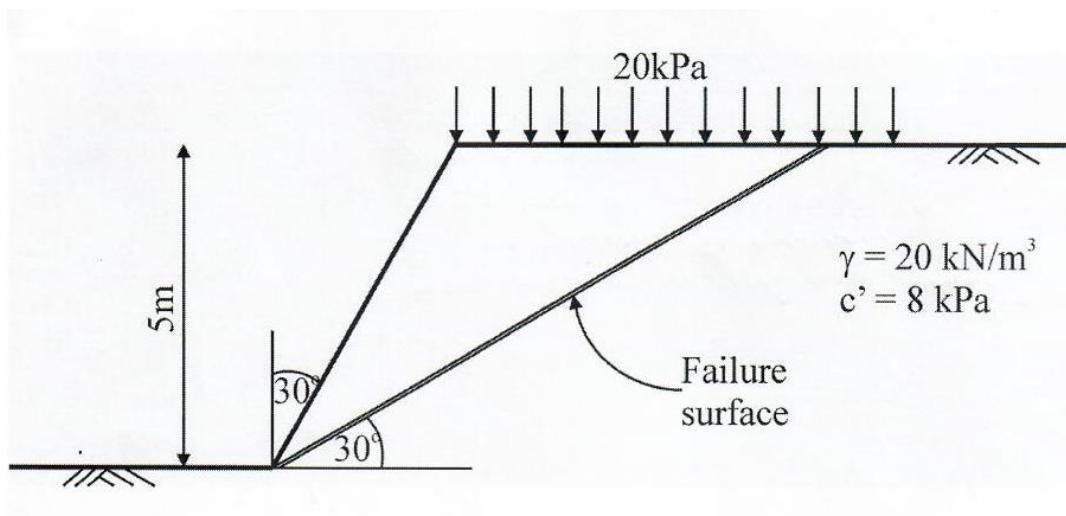

Figure Q4
4. For the design of roadworks it is necessary to investigate the stability of the side slopes of an excavation. A site investigation indicates that the soil is homogeneous to a considerable depth, with bulk unit weight γ of 20 kN/m^3 and cohesion c' of 8 kPa . This investigation did not provide a reliable value of the angle of shearing resistance φ' . However, during earlier works at the same site failure of an excavation was recorded, the geometry of which is presented in Figure Q4, together with the observed planar failure surface.
Using the Limit Equilibrium analysis method and the soil properties given above, back analyse the failure in Figure Q4 to determine the value of shearing resistance φ' . Assume that the soil behaves in a drained manner, with a Mohr-Coulomb failure criterion. A surcharge of 20 kPa , representing contractor's plant, should be assumed to act on the ground surface at the crest of the slope, as indicated in Figure Q4. Sketch the forces acting on the failing soil block.